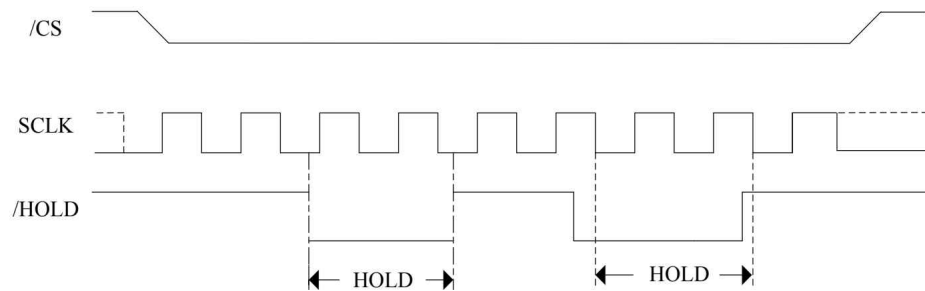

Figure 6-1. Hold Condition Activation
The Hold condition starts when the Hold ( $\overline{HOLD}$ ) signal is driven Low at the same time as Serial Clock (SCLK) already being Low (as shown in Figure 6-1).
The Hold condition ends when the Hold ( $\overline{HOLD}$ ) signal is driven High at the same time as Serial Clock (C) already being Low. Figure 6-1 also shows what happens if the rising and falling edges are not timed to coincide with Serial Clock (SCLK) being Low.